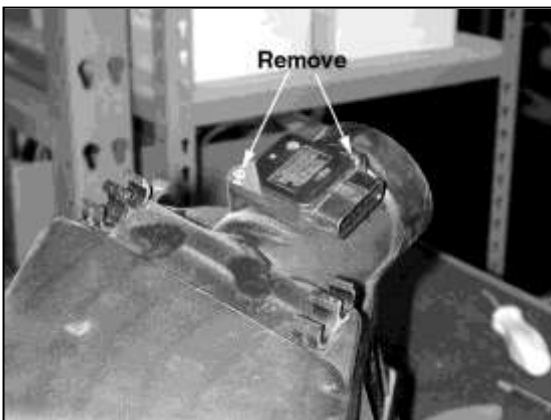

Fig. 13
- k. Remove the MAF sensor from the stock airbox assembly. **(Fig. 13)**